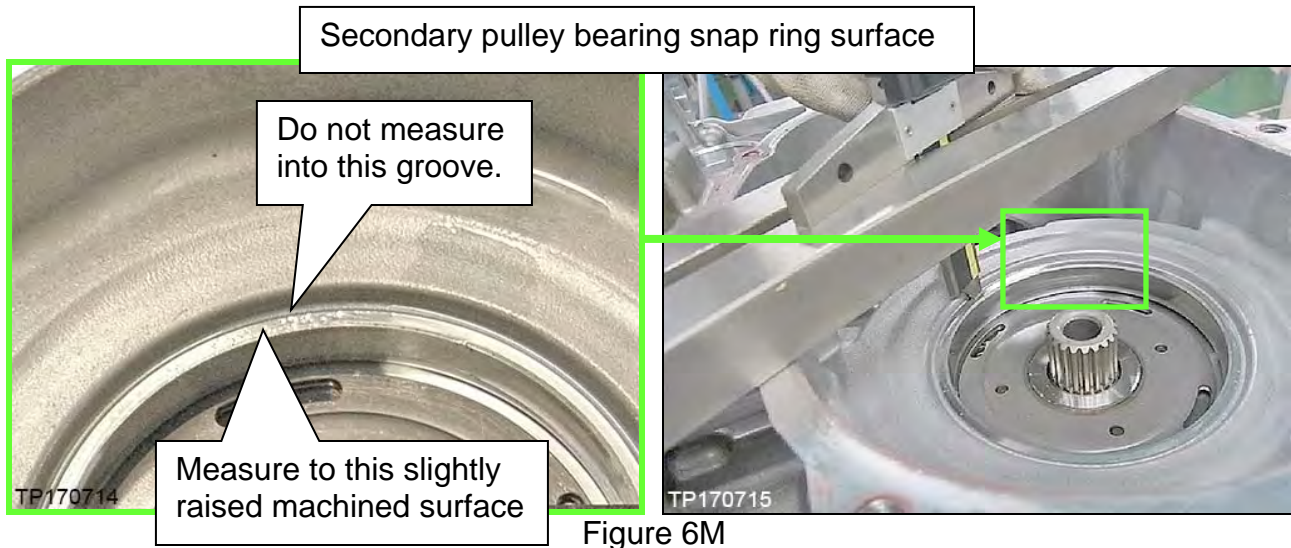

Figure 6M
a. Measure between the top of the Gauge Block (J-50271), to where the snap ring on the secondary pulley bearing seats (Figure 6M).